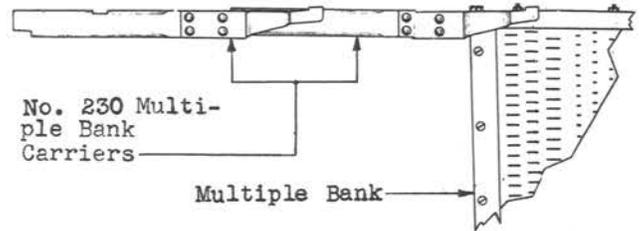

Fig. 11 - Method of Using No. 230 Multiple Bank Carriers
3.22 Use of No. 230 Multiple Bank Carrier: If it is found convenient, use may be made of one or two No. 230 multiple bank carriers as shown in Fig. 11 to support the bank while removing or replacing it in a frame.